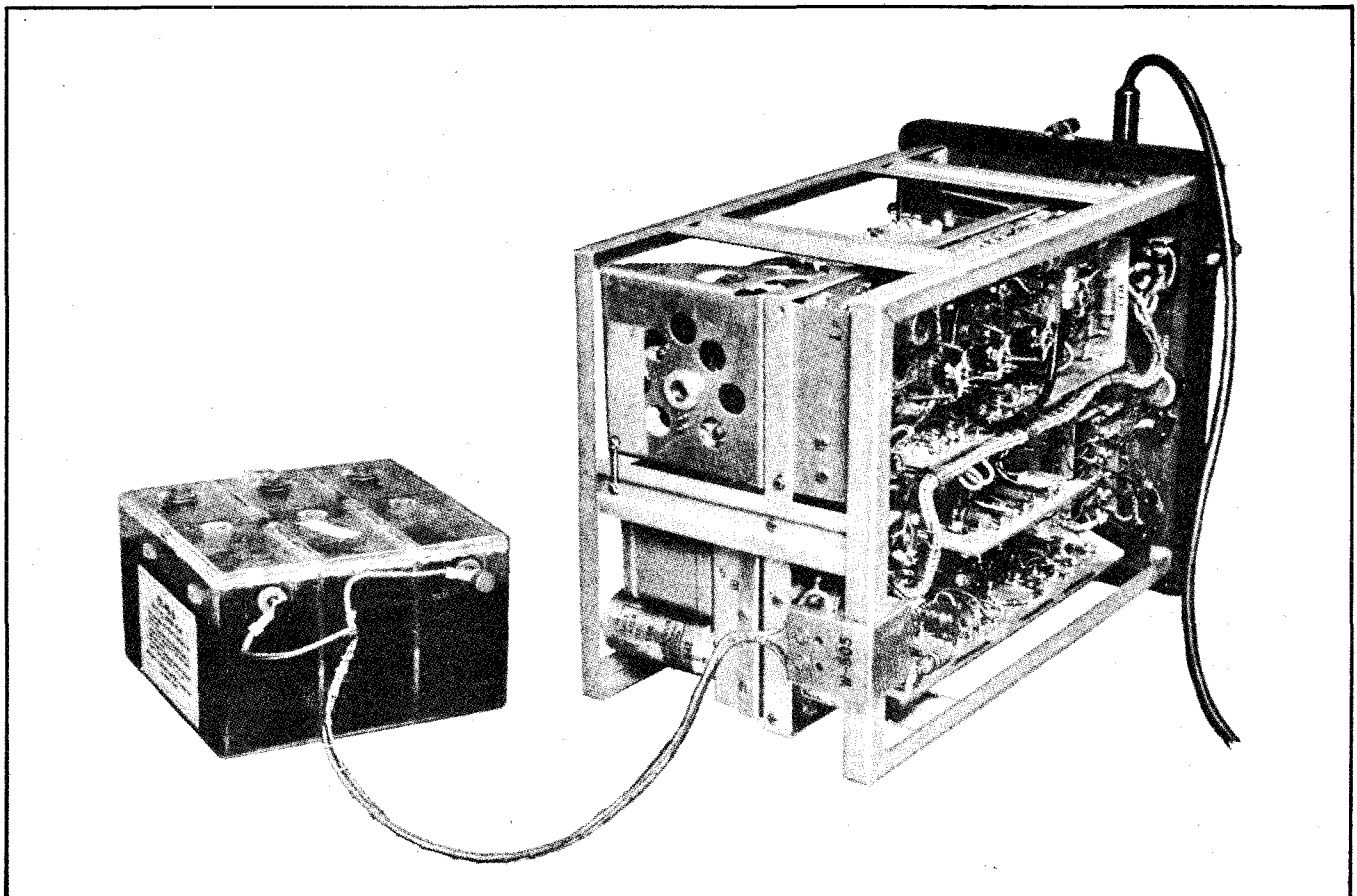

Figure 7-2.—Bench Test Setup.
b. Place the unit on a convenient workbench and connect a fully charged battery to the knife-blade terminals, as shown in figure 7-2. Special test cable W505, packed in the tool kit compartment at the right front of the Carrying Case, is used for interconnection. This cable is polarized to insure that the